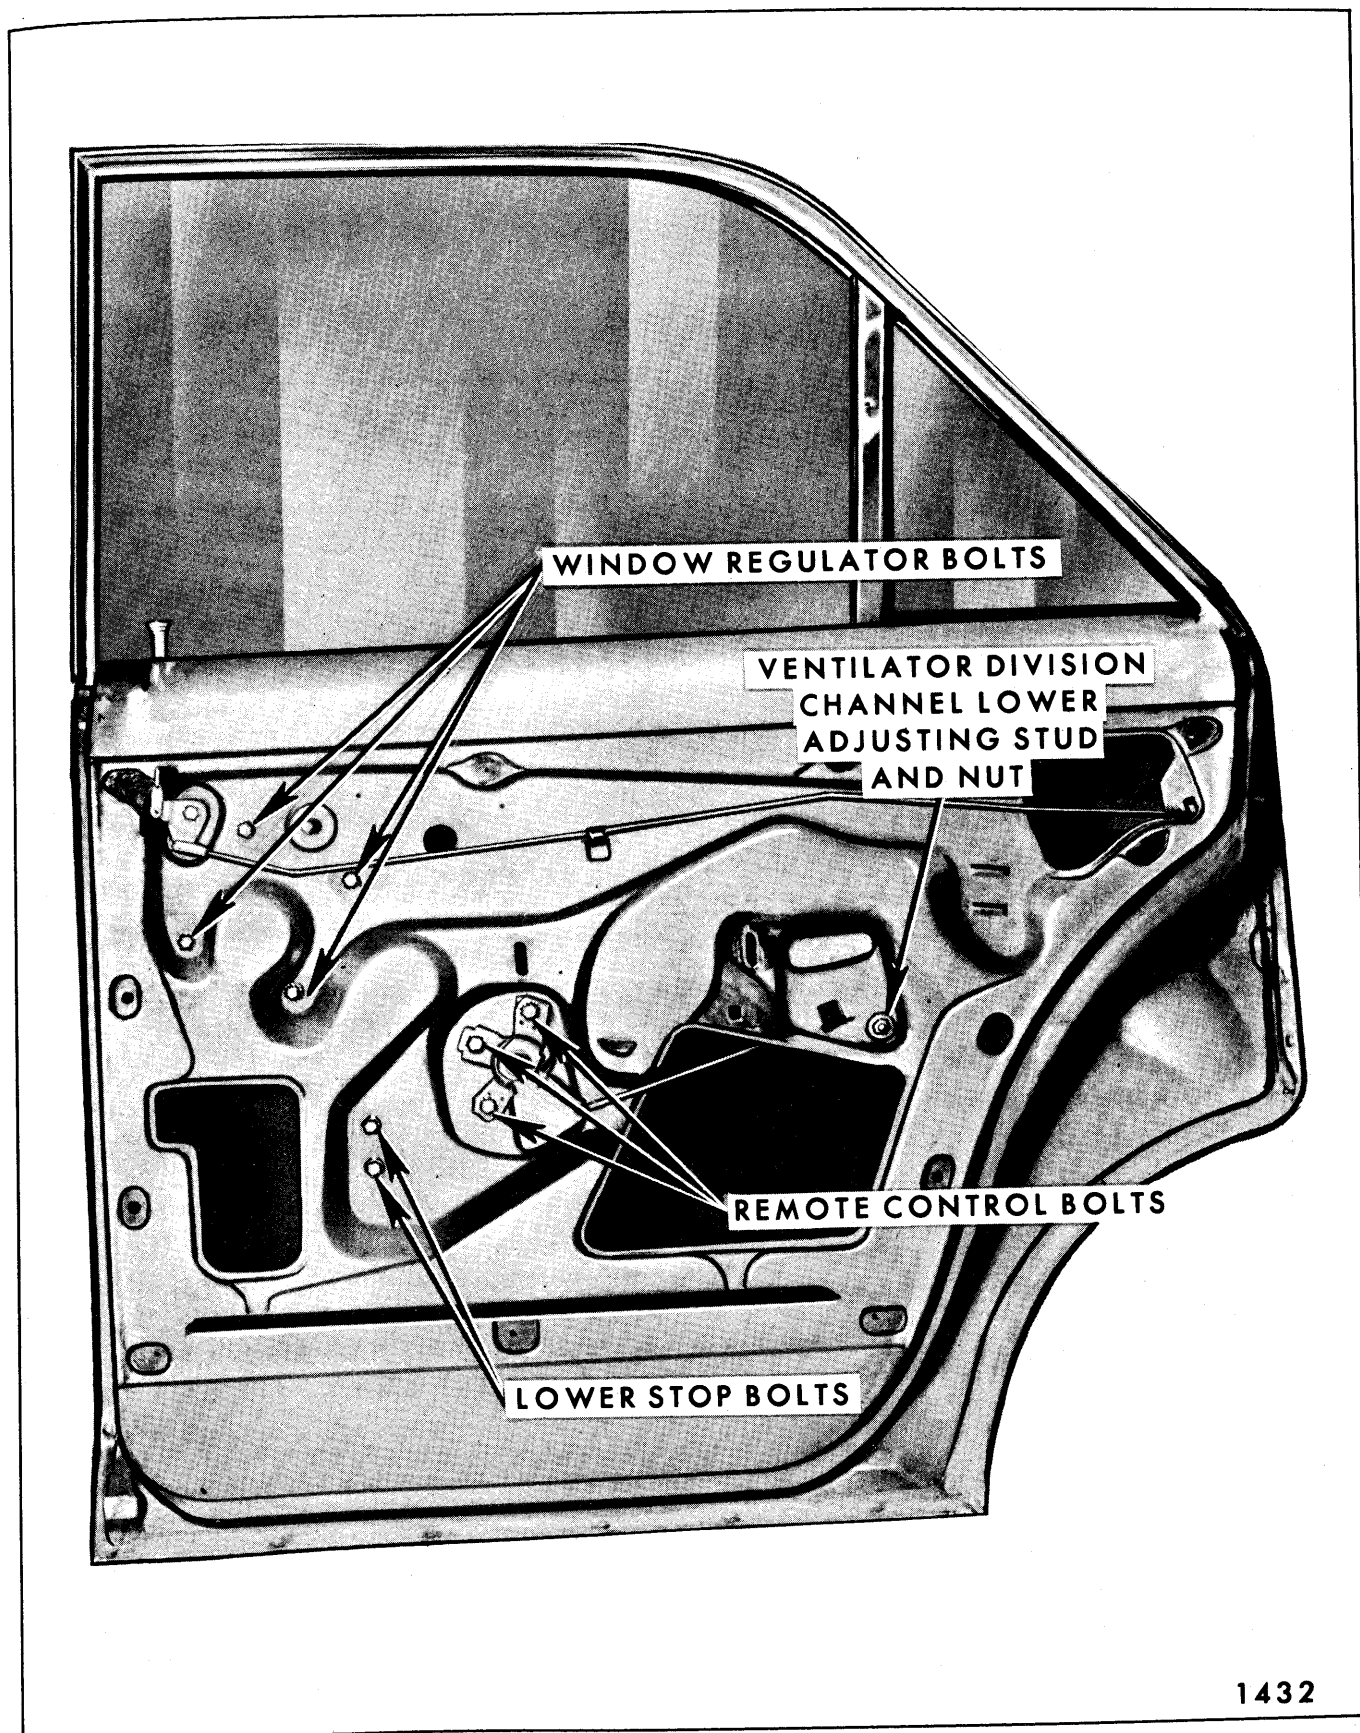

Fig. 7-128—Rear Door Hardware - "X-35 and 69" Styles
1. Remove door trim assembly and detach inner panel water deflector sufficiently to gain access to the lower adjusting stud and nut (see Fig. 7-128).
3. Remove stationary ventilator division channel (see Fig. 7-128).
3. Slide glass rearward to disengage regulator lift arm roller from lower sash channel cam and remove window from door inboard of door window frame (see Fig. 7-128).